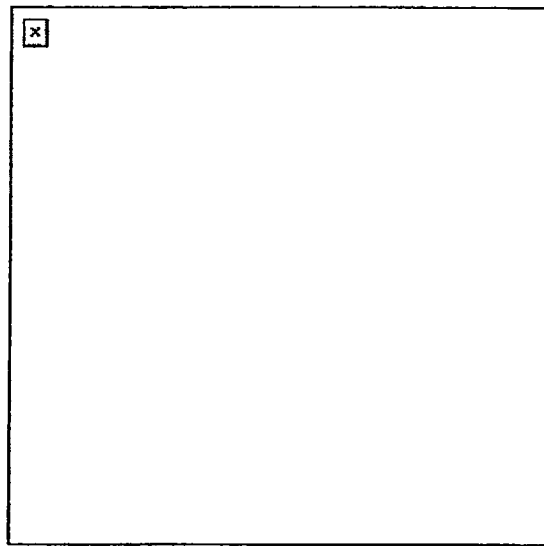
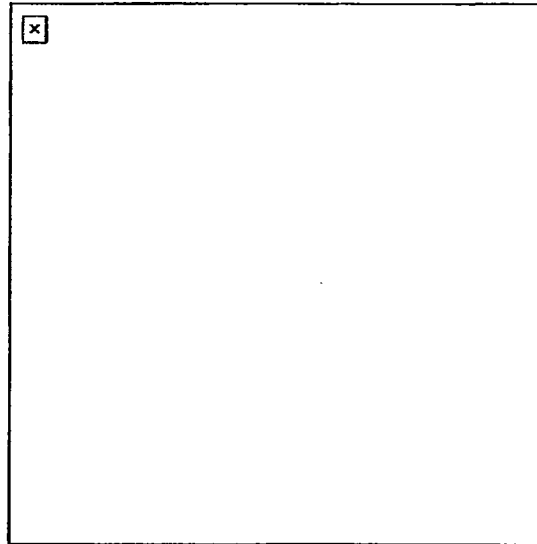
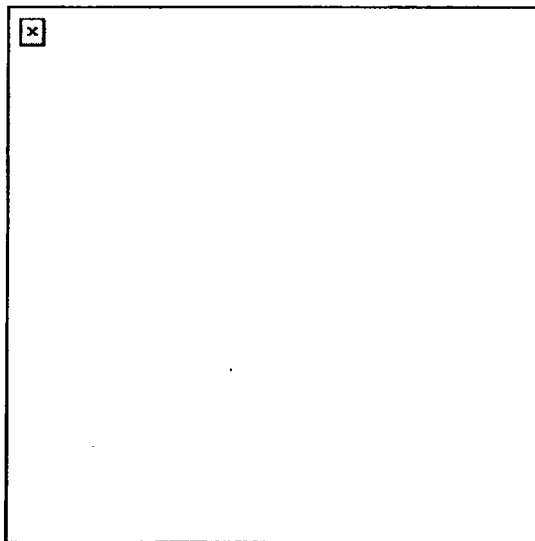
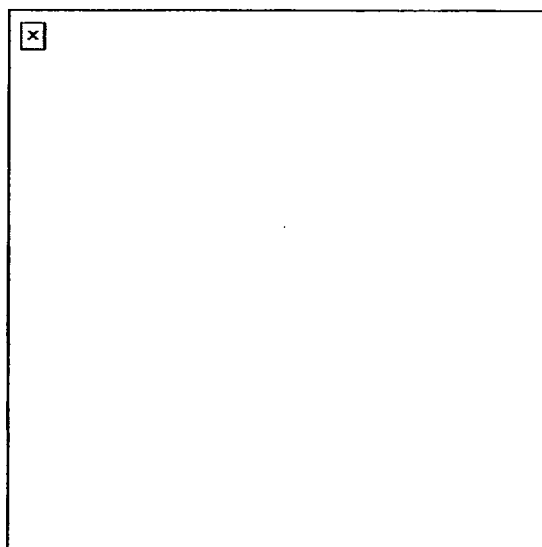

Figure 1. Fire team wedge.
Figure 2. Modified fire team wedge.
Figure 3. Fire team diamond.
Figure 4. Fire team file.
1. Fire team formations describe the relationship of the soldiers in the fire team to each other. Standard fire team formations are the wedge (Figure 1), modified wedge (Figure 2), diamond (Figure 3), and file (Figure 4).
- a. Fire team wedge (Figure 1). This is the basic fire team formation. It has the following characteristics:
- (1) Is easy to control.
- (2) Is flexible.
- (3) Allows immediate fires in all directions.
- (4) Provides all-round local security.
- b. Modified wedge (Figure 2). When rough terrain, poor visibility, or other factors reduce control of the wedge formation, the sides are closed up to (almost) a single file. When moving in less rugged terrain and control becomes easier, soldiers resume their original positions. The modified wedge can also be used for extended periods when traveling on roads or trails. It has the following characteristics:
- (1) Is easier to control in reduced visibility or rough terrain.
- (2) Provides less security to flanks than a wedge but more than a file.
- (3) Masks fires initially to the front and rear for the majority of the team.
- c. Fire team diamond (Figure 3). This formation is a variation of the wedge. It is most often used when the fire team is operating alone or is the lead security element (point) for a column or file. It has the same characteristics as a wedge except there is--
- (1) Reduced frontage.
- (2) Increased security to the rear.
- (3) Immediate fires in all directions, but one man's fires are always masked.
- d. Fire team file (Figure 4). When the fire team is not using a wedge or diamond formation, it uses the file. The characteristics of the file are--